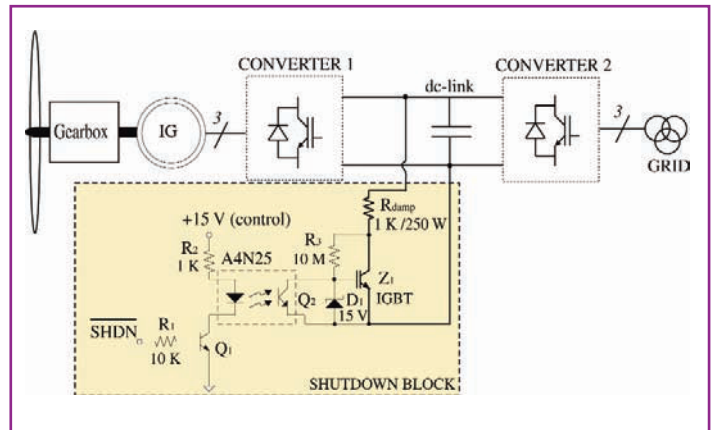

Figure 1: This circuit provides safe shutdown when grid disconnection is required, or if there is a fault in the power system
In a variable speed wind energy system, two back-to-back PWM converters are usually connected between the induction generator (IG) and the three-phase grid, as shown in **Figure 1** (right). In this configuration, the power flow of CONVERTER 2 is controlled in order to keep the dc-link voltage constant, while CONVERTER 1 is set to meet the magnetisation demand of the IG and the fixed reference speed.
The circuit in Figure 1 implements this shutdown with few components, with a command signal generated by the control card which is isolated from the power system. Some of these circuits are implemented using a thyristor as a switching element. By using a thyristor the activation can only be controlled in the case of a shutdown, but this would not be so in the case of de-activation. The proposed shutdown block uses an IGBT to control both the activation (shutdown mode) and de-activation (normal mode).